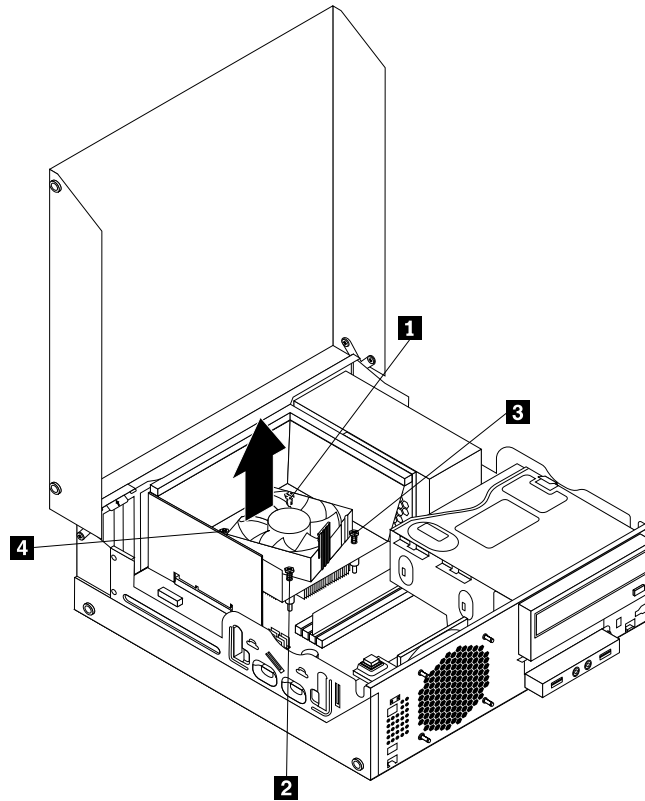

Figure 126. Screws that secure the heat sink and fan assembly
- Follow this sequence to install the four screws to secure the new heat sink and fan assembly, as shown in Figure 126 “Screws that secure the heat sink and fan assembly” on page 182: